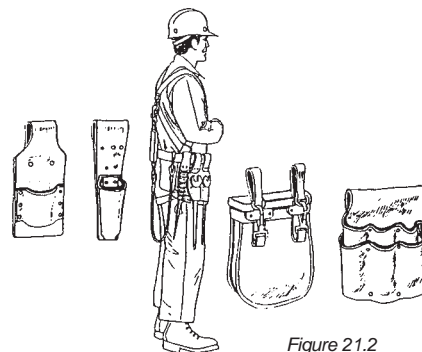

Figure 21.2
- 6) **Never climb ladders with tools in your hand.** Tool holders and pouches (Figure 21.2) free the hands while workers are climbing or working on ladders, scaffolding, and other areas where access may be difficult. When carrying tools up or down from elevated places, put them in substantial bags or boxes and raise and lower them with strong ropes.